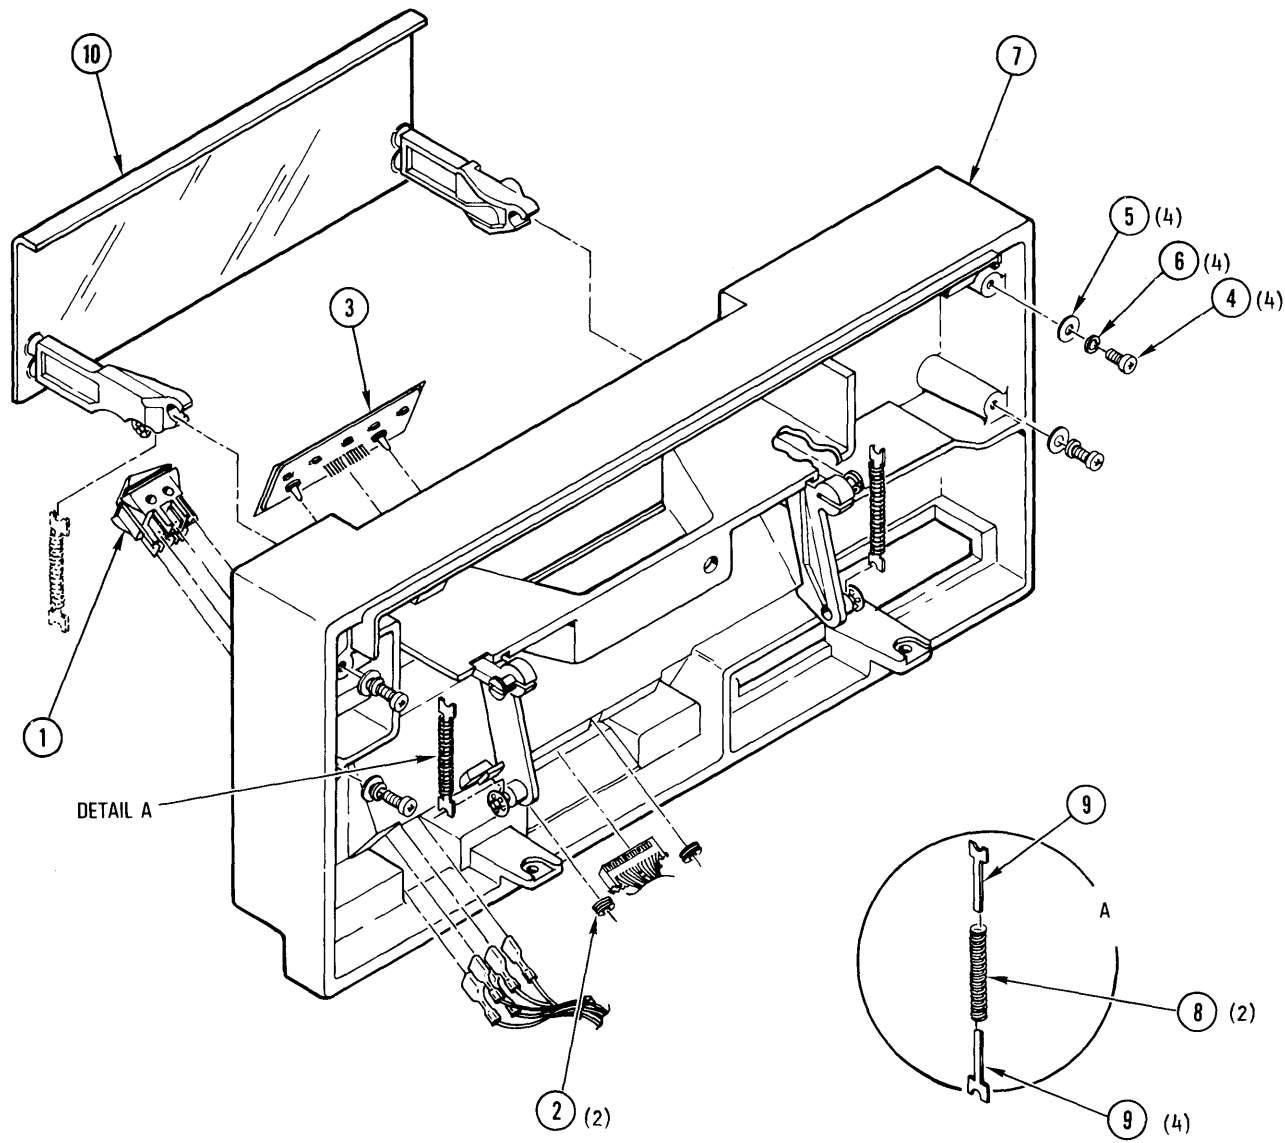

Figure 4-7. Front Panel Assembly
4-19. **Power Switch Replacement.** To replace the power switch (I, Figure 4-7), proceed as follows:
4-20. **Touch Switch Replacement.** To replace the touch switch (3, Figure 4-7), proceed as follows:
4-21. **Front Panel Subassembly Replacement.** To replace the front-panel subassembly (7, Figure 4-7), proceed as follows:
4-22. Removal And Replacement of Door Assembly. To replace the door assembly (10, Figure 4-7), proceed as follows:
- b. Remove two springs (8) and four guides (9), and push door off the hinge points, using finger pressure on front of door at the arm. Remove the door through the front panel opening.
- c. Install door assembly in front panel subassembly by snapping arms onto plastic studs of front panel assembly, as indicated in Figure 4-7.
- d. Assemble guides (9) with springs (8), with flat surfaces of guides in contact with each other.